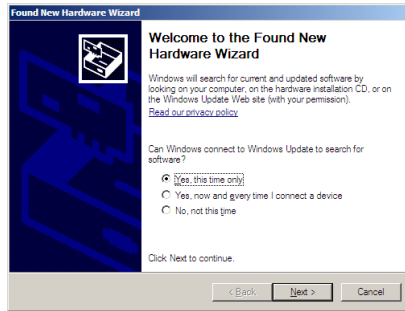

Figure 1
- (1) Insert the installation CD and please ignore the hardware wizard if you see it, then connect the DS-1000 with your PC.
- (2) The Windows OS will find an USB device and enter the hardware wizard (Figure 1), then choose “yes. This time only”.